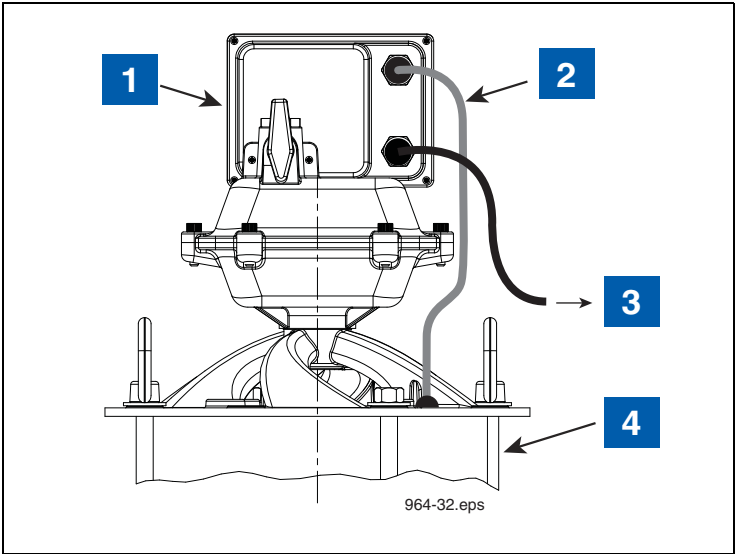

Figure 17. Attaching transmitter cable to CCVP vapor valve
9. Attach the connector end of the CCVP cable to the Carbon Canister's Vapor Valve connector (see Figure 17).
LEGEND FOR NUMBERED BOXES IN Figure 17